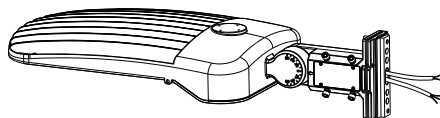

Figure 8
Step 2: Install the bracket on the fixture, then cover the side lid and tighten it. (Figure 8)